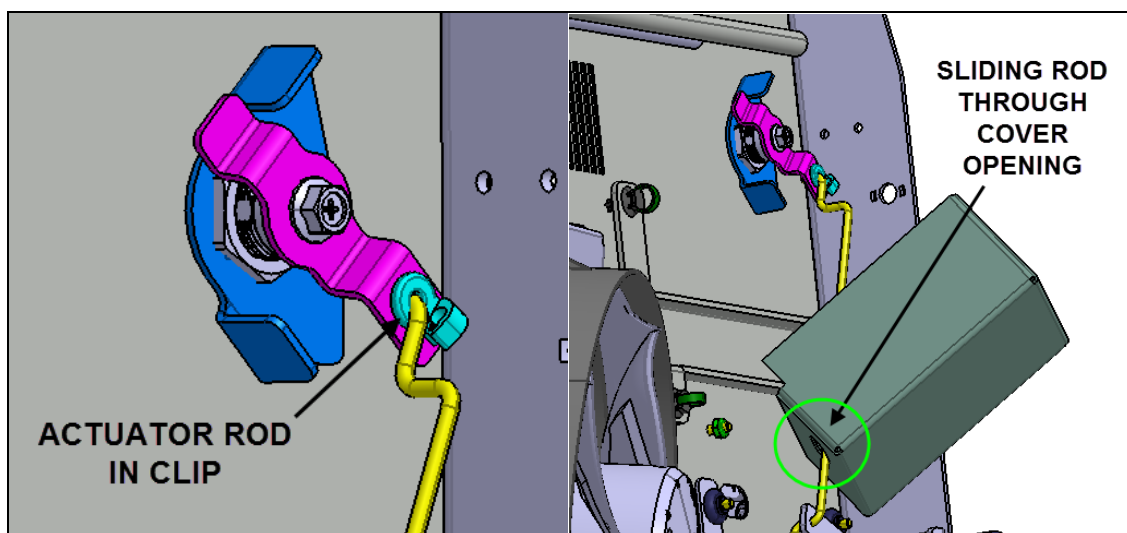

FIG.12 ACTUATOR ROD AND COVER INSTALLATION
12. Reinstall the rod upper end in the clip (make sure that the cylinder cover is in place with the rod inserted in the cover bottom slot like shown in Fig.12).